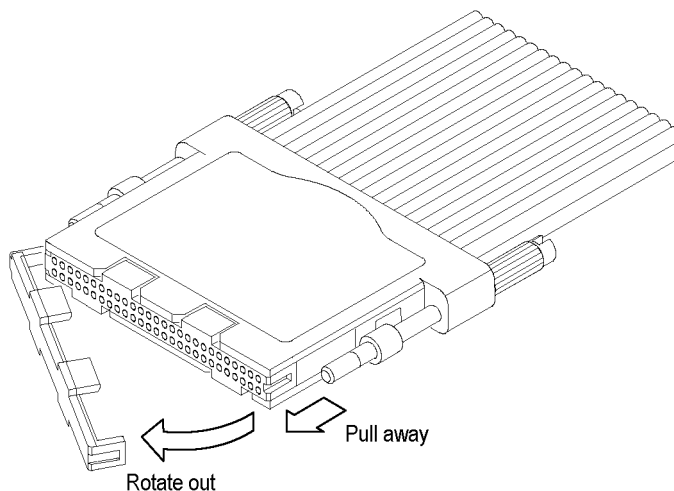

Figure 19: Replacing the cLGA clip
1. Gently pull one side of the clip away from the probe head and then remove the entire clip. (See Figure 19.)